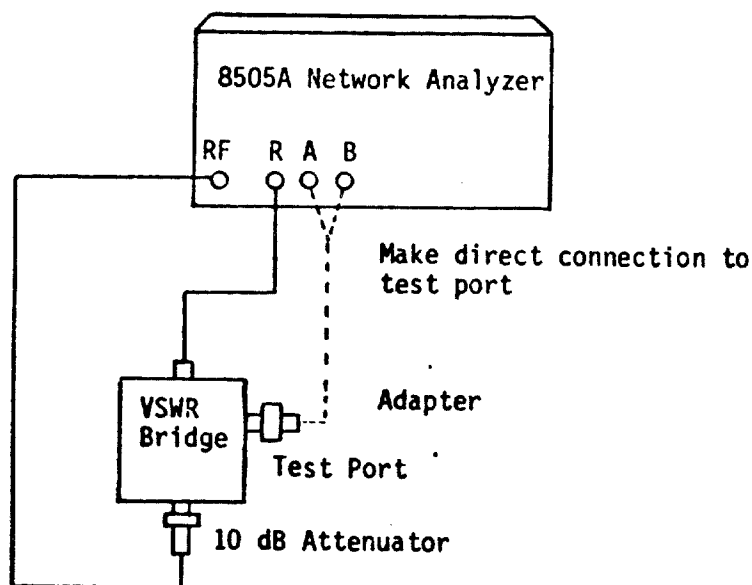

Figure A4-19 Input Impedance Test Setup
- b. Connect equipment as shown in Figure A4-19.